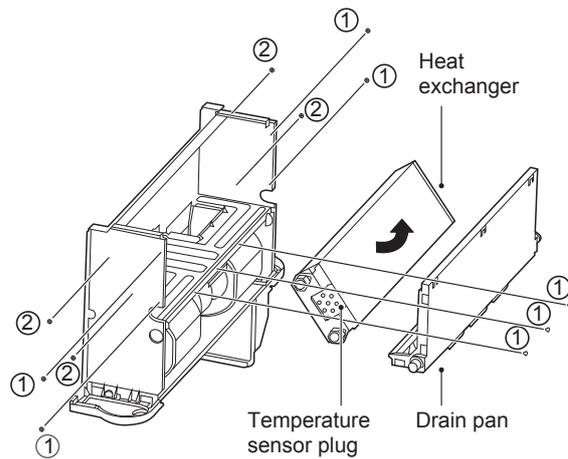
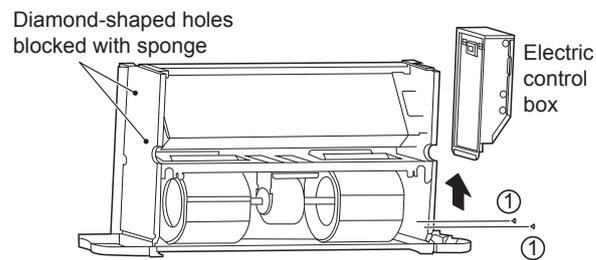

Figure 5-18
Figure 5-19 Removing the electric control box and blocking the diamond-shaped holes
As shown in Figure 5-18, remove screws ① *7 to take the drain pan out.
Rotate the coil in the direction as shown in Figure 5-18. As shown in Figure 5-19, remove screws ① *2 to take the electric box out.
As shown in Figure 5-19, block the diamond-shaped holes on the side plate (the plate without inlet and outlet pipes) with sponge.